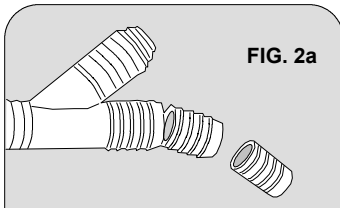

FIG. 2a
3. Universal barbs on the ET116-003 will accommodate the various (IDs) inside diameters dishwasher hoses. Determine which size is required by sliding open end of the hose over the stepped barbs until one fits snugly. If the hose fits snugly over the middle or largest barb, you must cut away the smaller barb(s) with a hacksaw. Use the grooved “cut lines” provided, then smooth away any burrs. (See Fig. 2a)